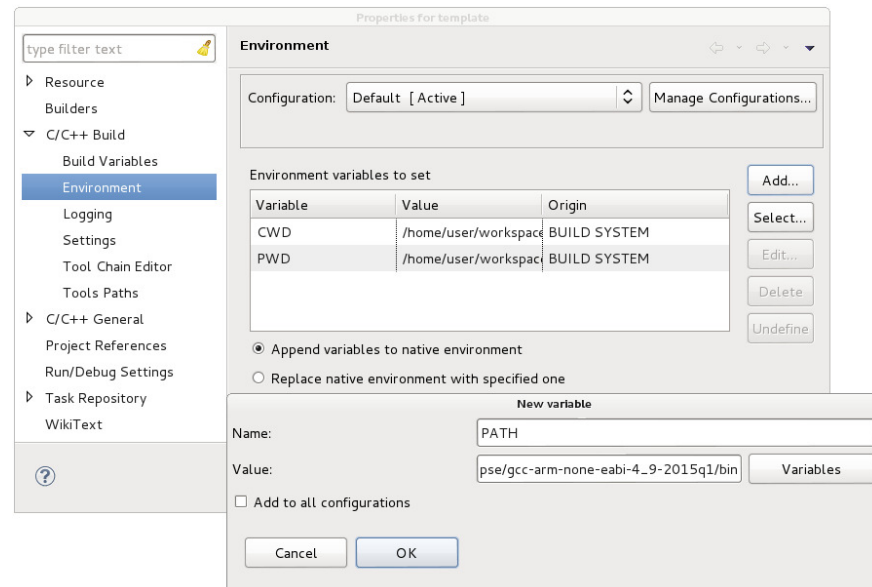

Figure 1.7: Path to the GNU tools directory
*C/C++ Build* | *Environment* → press the *Add...* button → *New variable* dialog box → set variable *Name* to *PATH* and *Value* to */home/user/eclipse/gcc-arm-none-eabi-4\_9-2015q1/bin* → press the *OK* button → back in the *Properties for <projectname>* dialog box press the *Apply* button (see Fig. 1.7)